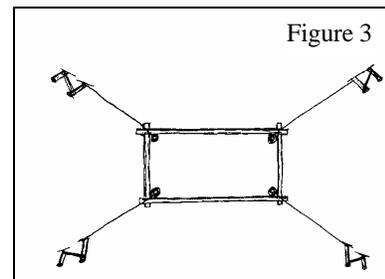
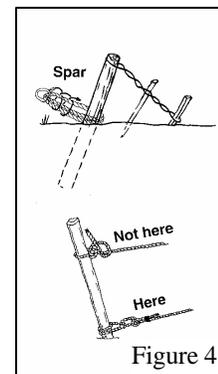

Figure 3
Figure 4
- Place four 1-1 anchors at these locations. See Figure 3 and Figure 4.
- Attach four 50' guy lines to the 14' spars just above the **Platform Supporting Spar**. Attach with a roundturn with two half hitches (See Figure 4). Secure the running end of the rope.